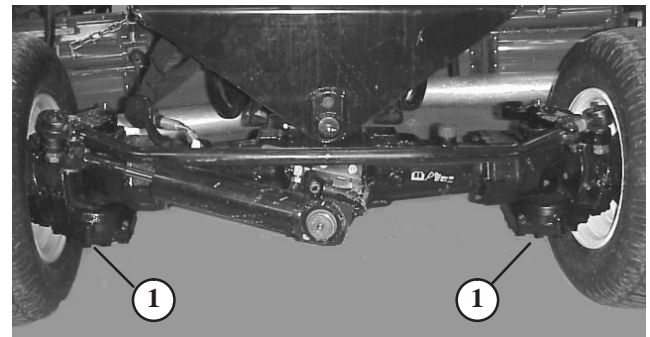

Figure 68
2. Clean area around the drain plugs (Fig. 68).